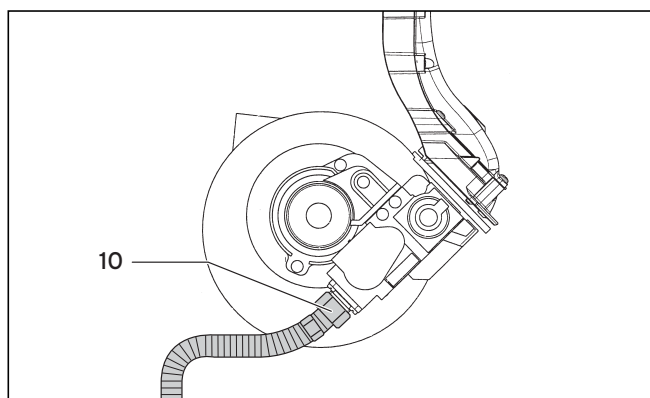

Fig. 7.2 Gas connection
- Undo the fastening screw of the air intake pipe (5) and lift the air intake pipe forward (3); remove the air intake pipe from the intake socket.
- Pull the two plugs of the ignition and grounding lines off the ignition electrode (6).
- Undo the gas supply line (10) on the underside of the gas fitting (fig. 7.2).
- Pull the cables (9) off the fan motor and the cable (8) off the gas fitting.
- Undo the five nuts (2).
Check the gas connection (10) for leaks with leak spray (fig. 7.2).